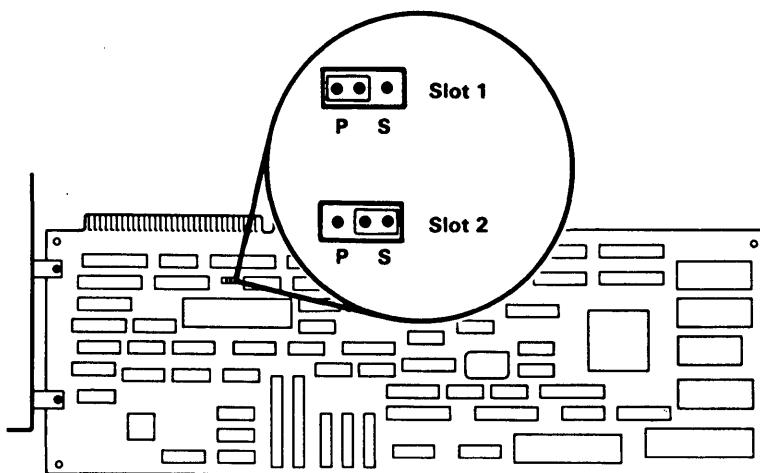

FIGURE 6. ADAPTER JUMPER
- (1) Hold the adapter by the bracket and edges.
- (2) Set the adapter jumper for Slot 1. Use the two left-most positions for Slot 1. See Figure 6.
- (2) Set the adapter jumper for Slot 2. Use the two right-most positions for Slot 2. See Figure 6.